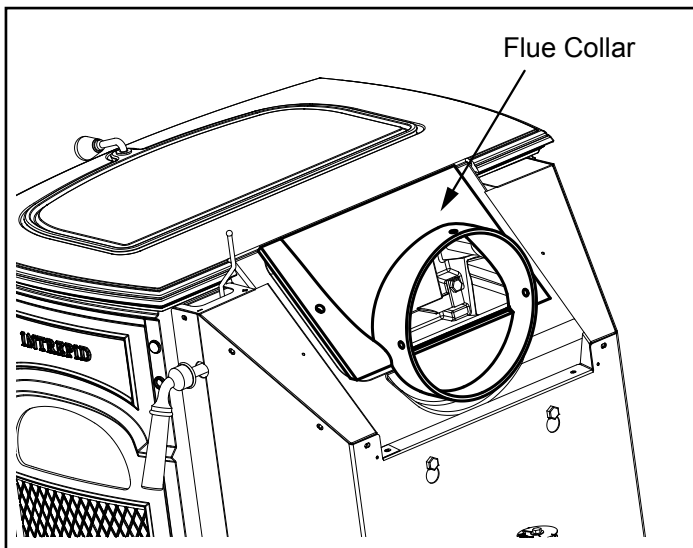

Figure 5.12
3. Turn flue collar to horizontal position. Inspect rope gasket located on the rear cast housing to ensure a leak free seal. Re-install flue collar. Figure 5.12.